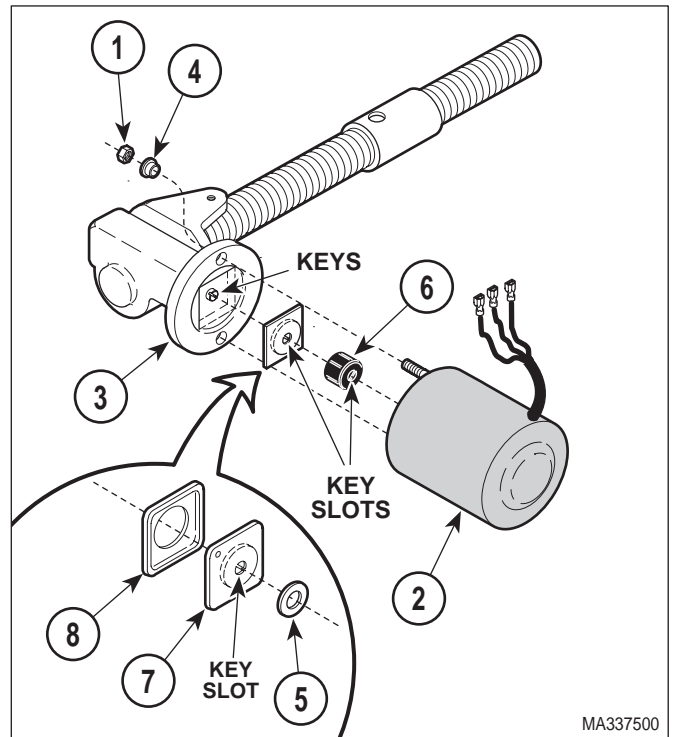

Figure 4-24. Actuator Motor / Actuator Brake Removal / Installation
- (2) Remove two nuts (1, Figure 4-24) and actuator motor (2) from actuator mechanism (3).
- (3) Remove two shoulder washers (4) from actuator mechanism (3).
- (4) Remove spacer (5) and motor coupler (6) from shaft of actuator motor (2).